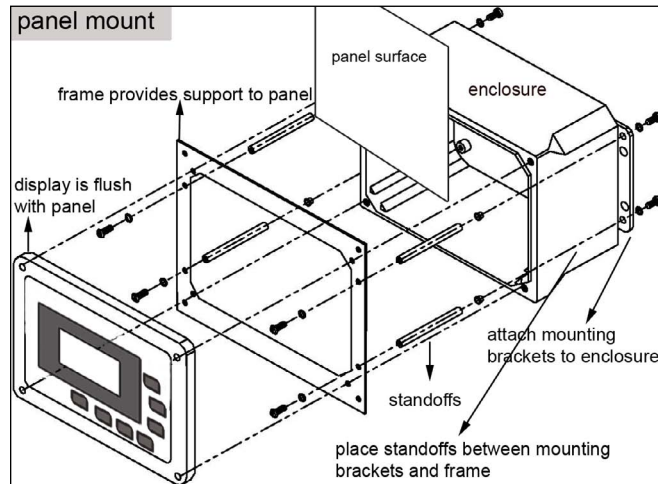

Figure 3.8
8. Place standoffs between 5X00 mounting brackets and panel surface - figure 3.8- page 32.